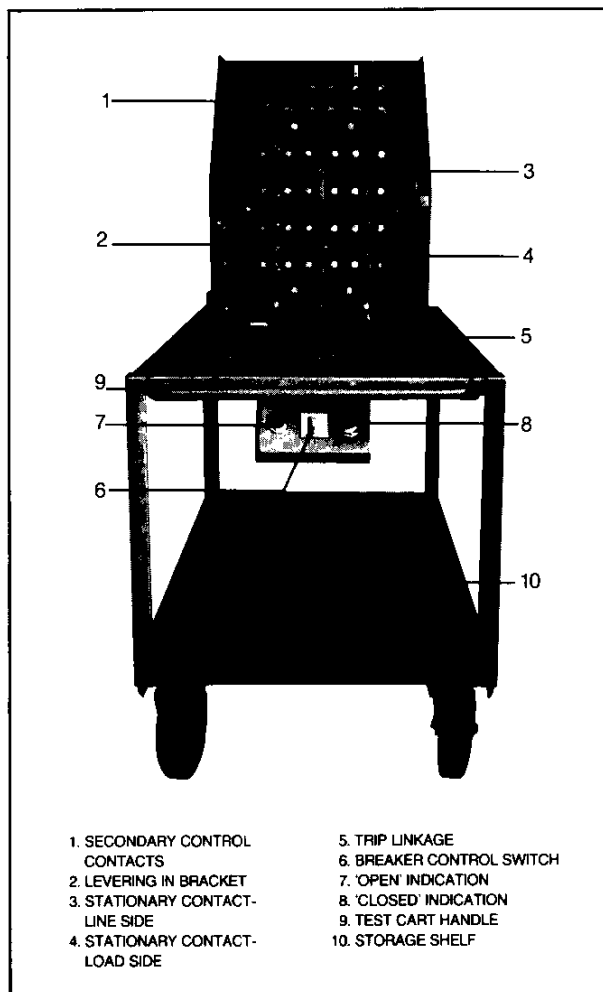

Figure 1
- (Refer to figures 1 and 2 for the circuit breaker test component locations.)